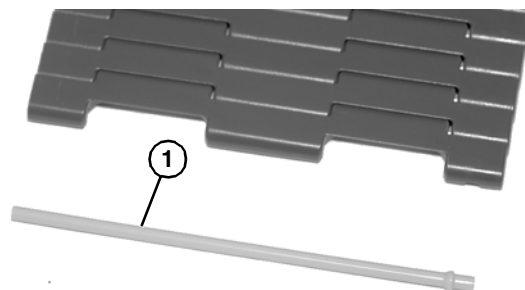

Figure 12
1. Locate the conveyor belt retaining rod (**Figure 12, item 1**).